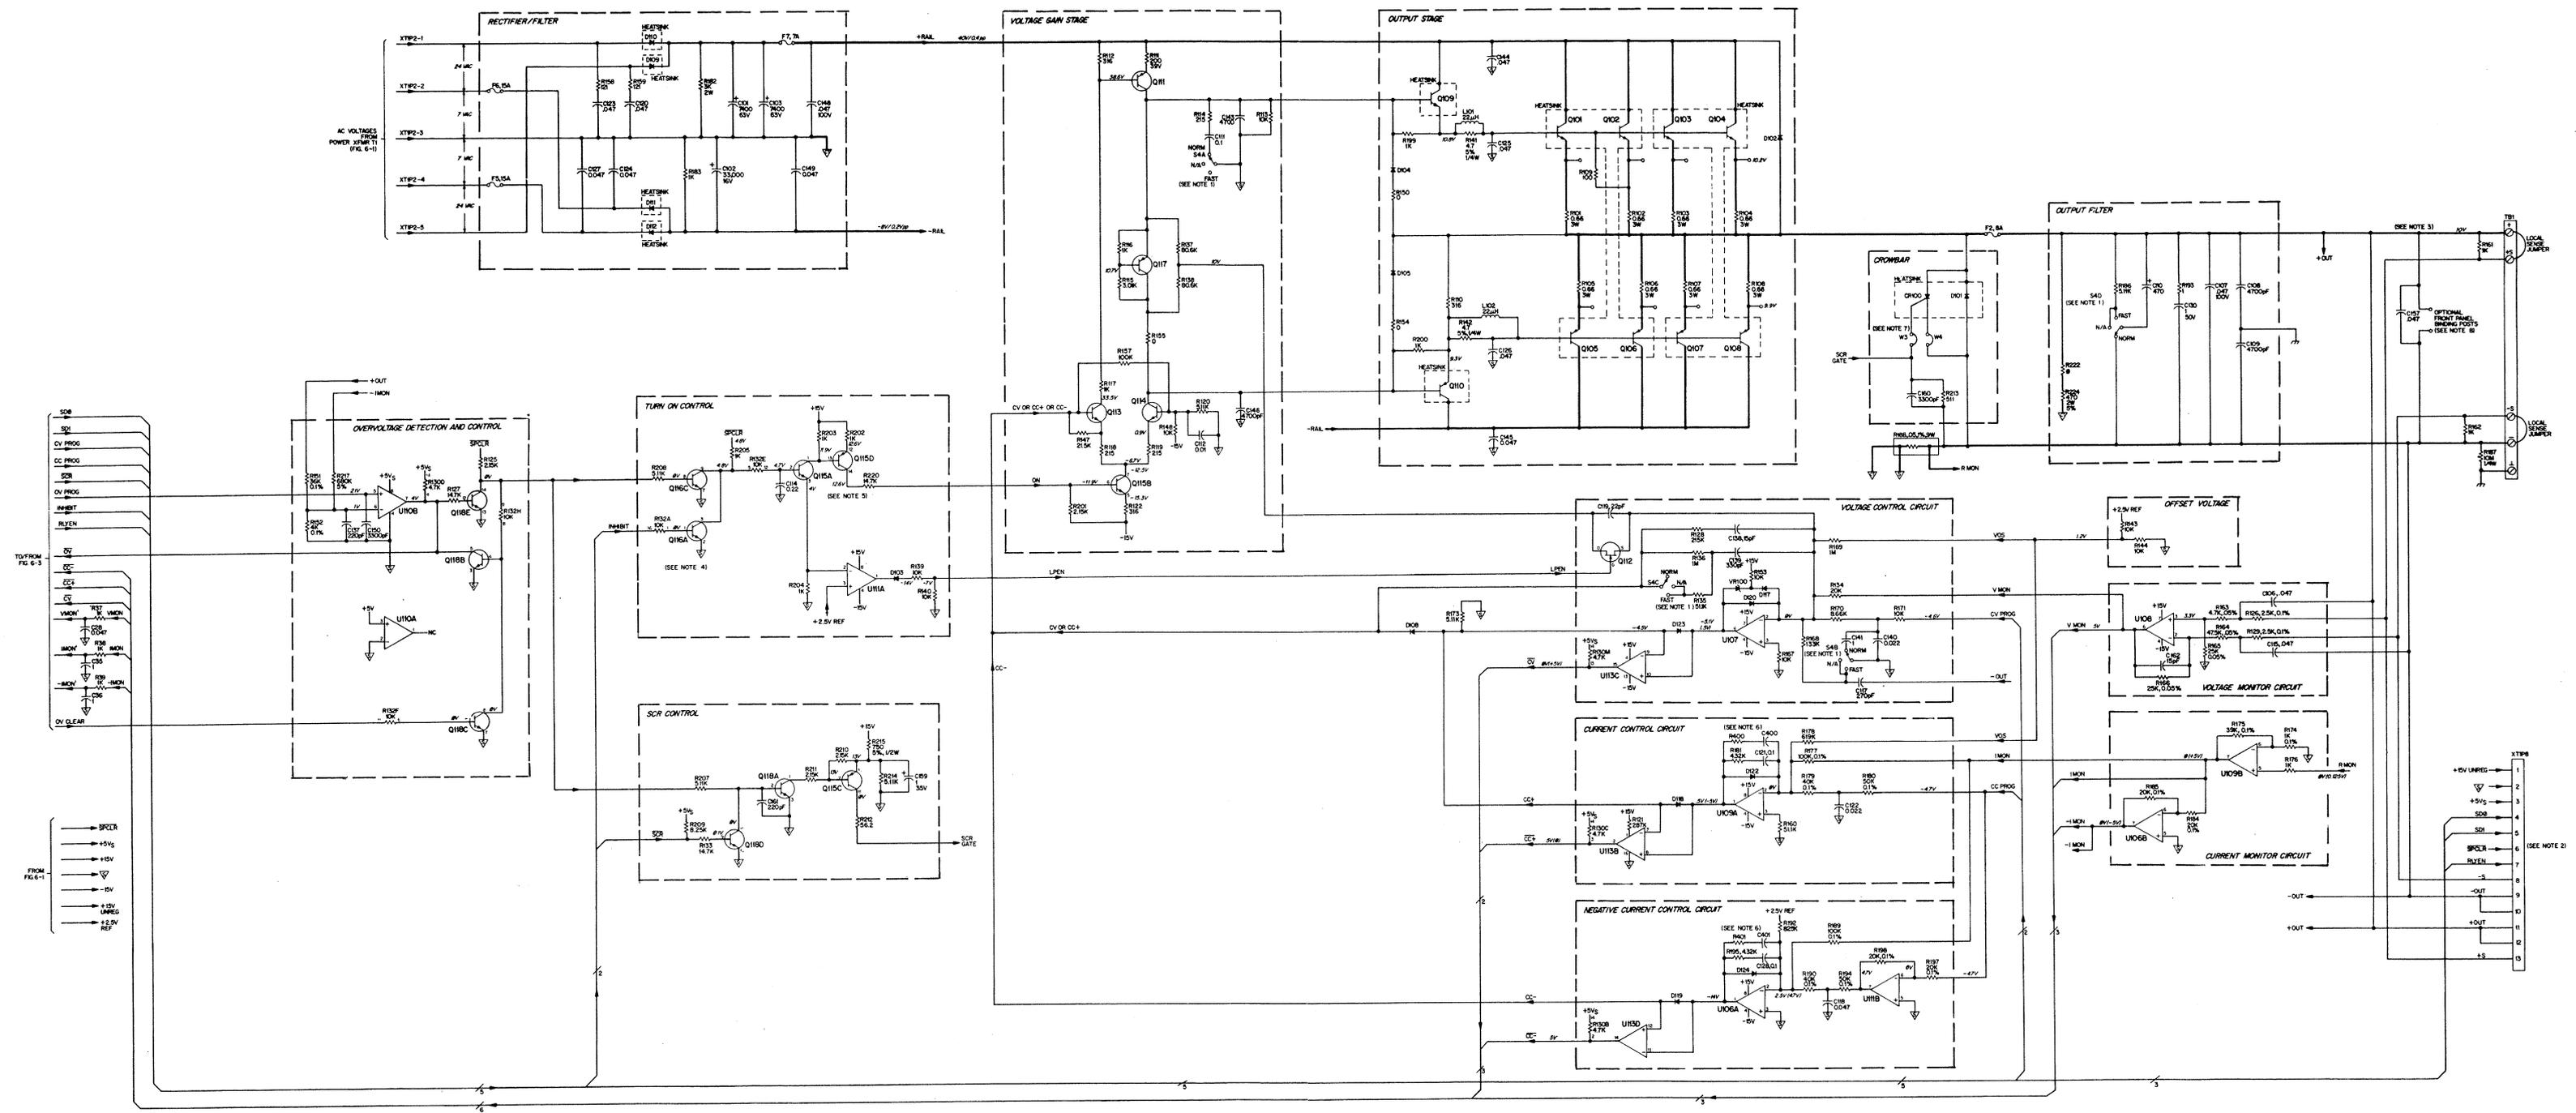

Figure 6-4. Model HP 6632A Power Mesh and Control Circuits, Schematic Diagram
6. The schematic lists typical ac and dc voltages measured at nominal line voltage. The dc voltages for the +5Vp Bias Supply and Start-Up circuit are measured with respect to the primary interface common ; all other dc voltages were measured with respect to the secondary interface common . The ac measurements were taken across the secondary windings as shown on this schematic. The ac measurement values for the power mesh circuits are shown on the applicable schematic: Figure 6-4 (HP Model 6632A), Figure 6-5 (HP Model 6633A), or Figure 6-5 (HP Model 6634A), Figure 6-5 (HP Model 6633A), or Figure 6-5 (HP Model 6634A).
2. OPERATING MODE switch S4 selects either the NORMAL or FAST mode (see paragraph 4-4 in the Operating Manual). Switch S4 is actually a three position switch: NORMAL, N/A, and FAST. The FAST and N/A positions are connected together and select the same operating mode (FAST). For functional clarity, section S4A, shown in the secondary interface microcomputer circuit on this schematic, is also shown in the voltage gain stage on the power mesh schematics (Figures 6-4 through 6-6).
3. Sections B through D of quad comparator IC (U113) are shown in the voltage and current control circuits on the power mesh schematics (Figures 6-4 through 6-6).
Schematic Notes for Figure 6-4